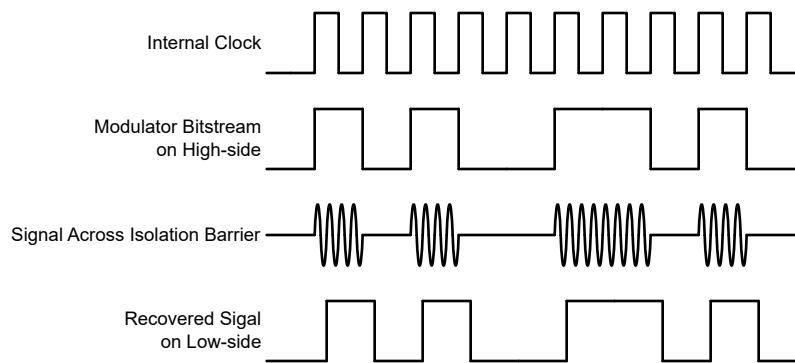

Figure 7-1. OOK-Based Modulation Scheme
The AMC1211-Q1 uses an on-off keying (OOK) modulation scheme, as shown in Figure 7-1, to transmit the modulator output bitstream across the SiO_2 -based isolation barrier. The transmit driver (TX) shown in the Functional Block Diagram transmits an internally-generated, high-frequency carrier across the isolation barrier to represent a digital *one* and does not send a signal to represent a digital *zero*. The nominal frequency of the carrier used inside the AMC1211-Q1 is 480 MHz.